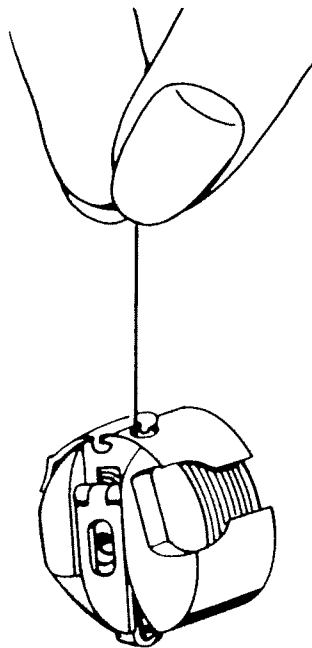

Fig. 17
- Upon sharp upward movements of the hand, the thread must run off gradually (see Fig. 17).